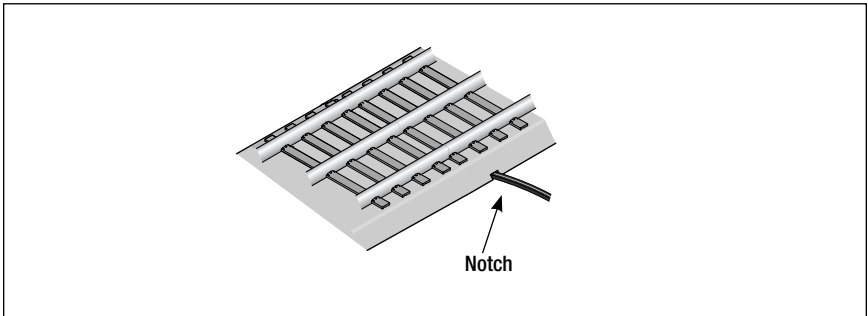

Figure 2. Positioning the wires
4. As illustrated in Figure 2, feed the Uncoupling Track controller cable through the notch in the roadbed.